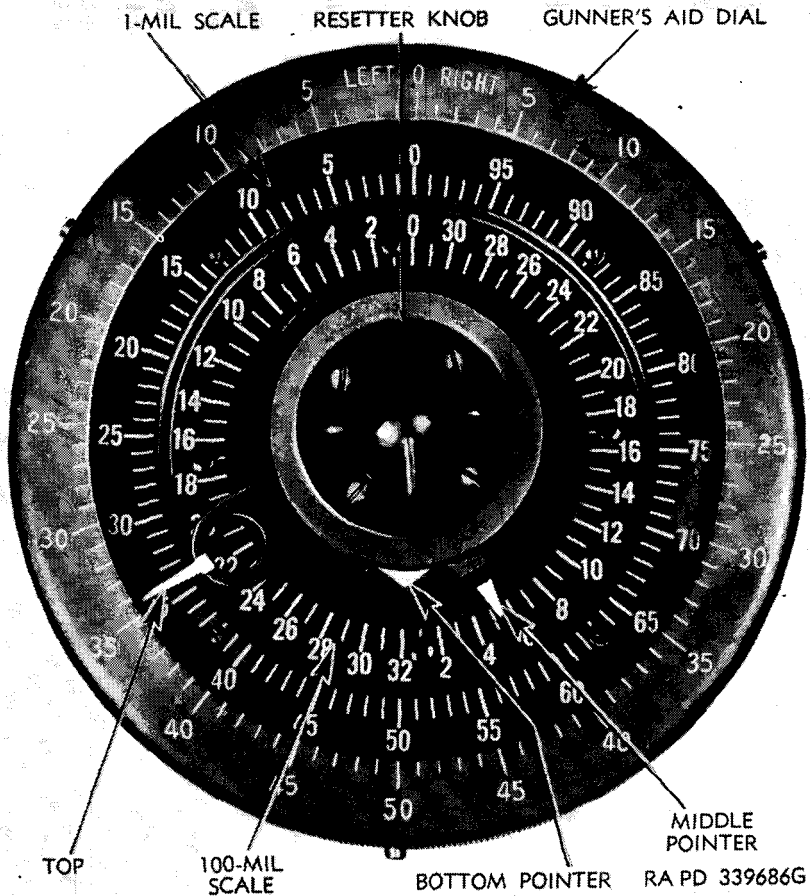

Figure 195. Azimuth indicator M21—scales and pointers.
d. AZIMUTH INDICATOR M21. The azimuth indicator M21 (fig. 195) secured to the left side of the turret and geared to the turret ring gear is used in indirect fire. The pointers, driven through the gearing, indicate on coarse and fine scales the position of the gun with respect to the longitudinal axis of the tank and with respect to an aiming point. A gunner's aid dial is also provided for making corrections.
g. PERISCOPE M15A1. This binocular periscope (fig. 195) in the commander's cupola door is used for observation of fire and for designation of targets. It may be swung back or forward in its
j. AZIMUTH INDICATOR M21. A resetter knob mounted in the central top portion of the azimuth indicator (fig. 195) is used to set the middle and top pointers.